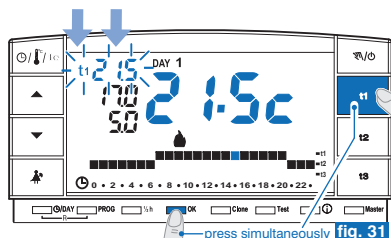

fig. 31
- Press the key that corresponds to the selected value (t1 or t2) and the OK key **simultaneously** within 8 seconds. Once confirmation is given, the symbol (t1 or t2) and the relative value to the side will start blinking (example in fig. 31).